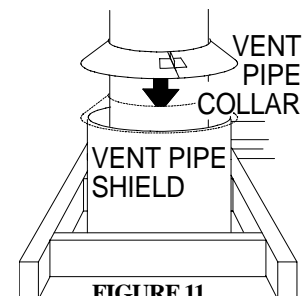
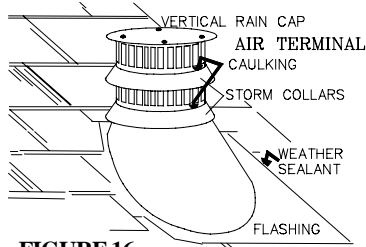

FIGURE 11
FIGURE 16
A vent pipe shield will prevent any materials such as insulation, from filling up the 1" air space around the pipe. **FIGURE 11** Nail headers between the joist for extra support.
6. Thread the air terminal pipe assembly down through the roof support and attach, ensuring that a minimum 16" of air terminal will penetrate the roof when fastened. **FIGURE 16. If the attic space is tight, we recommend threading the Wolf Steel vent pipe collar or equivalent loosely onto the air terminal assembly as it is passed through the attic. FIGURE 11.** The air terminal must be located vertically and plumb.